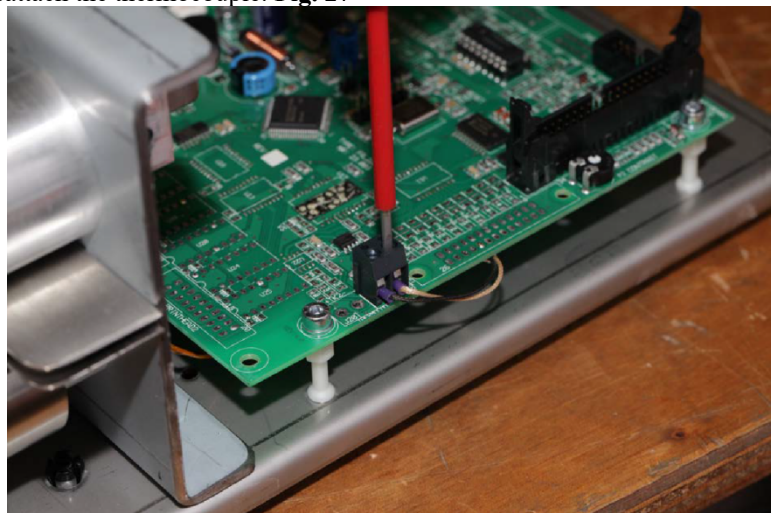

Figure 27
27. Reattach the thermocouple. **Fig. 27**